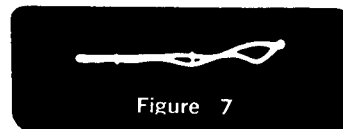

Figure 7
5. Turn the **MARKER GAIN CONTROL** on the sweep generator part way up; set the marker oscillator for full output; and select a frequency in the band to be swept. As the sweep **CENTER FREQUENCY DIAL** is turned past this frequency, the marker pip will show at two points on the oscilloscope. Figure 7.